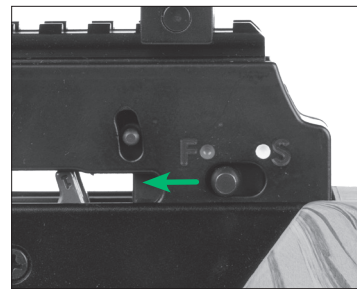

FIGURE 13
- 2c Slide the safety switch from the ON SAFE position to the FIRE position. (Fig. 13)